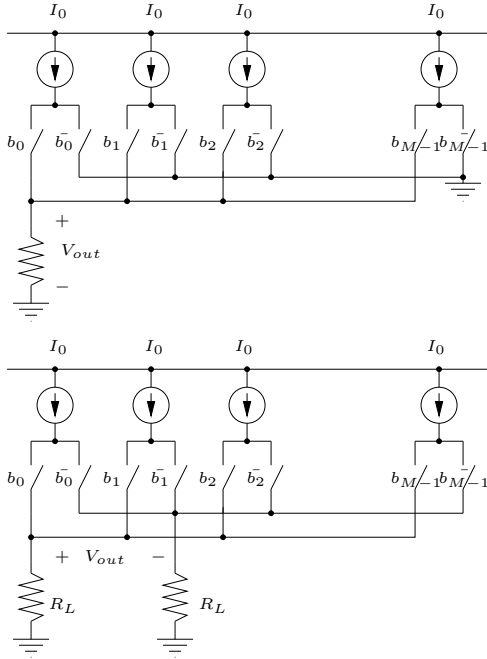

Figure 1:
1. Compute the effect of the output impedance on the single ended and differential DACs in Fig. 1. Is there a difference? What is the  $G_o/G_L$  ratio that can be tolerated for 1/2LSB maximum error in a 8 bit DAC in the two cases?  $G_o$  is the output conductance of a current source when it is on.